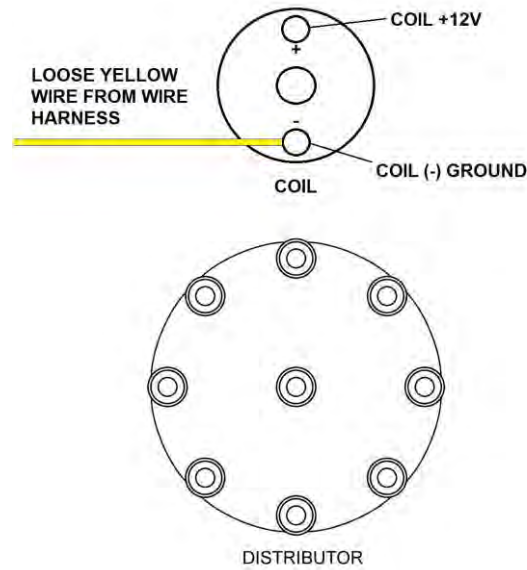

Figure 28
- 2) Any engine equipped with a factory mechanical advance distributor and separate canister style coil. This would include any points style distributor (Figure 28).
Figure 28 below shows how to connect to a factory style ignition with a canister style coil.